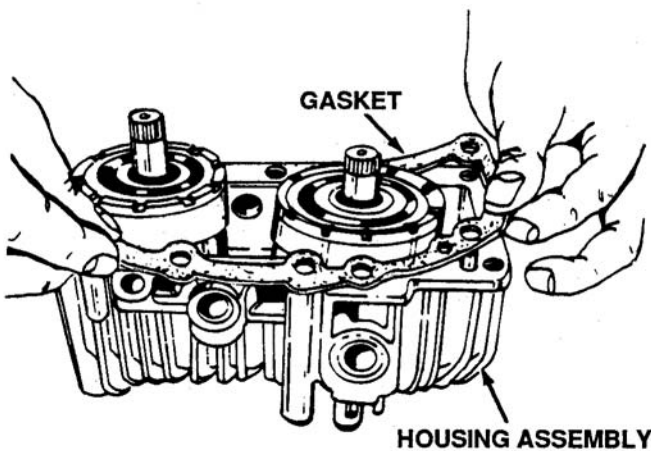

Figure 6-14. Removing Gasket
c. Remove the gasket. See Figure 6-14.